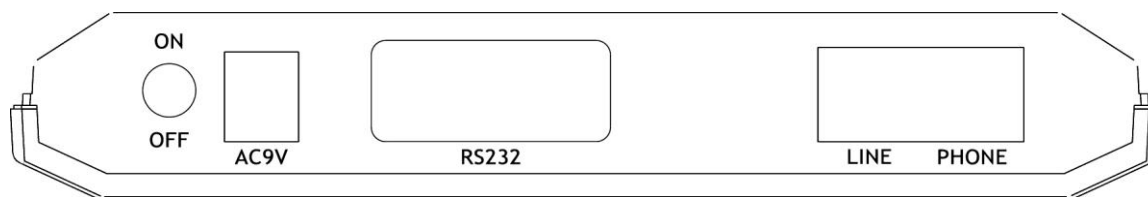

Figure 2-1 External Modem Rear Panel
3. Connect the male end of the serial cable into the connector marked **RS-232** on the rear panel of the modem. (see Figure 2-1)